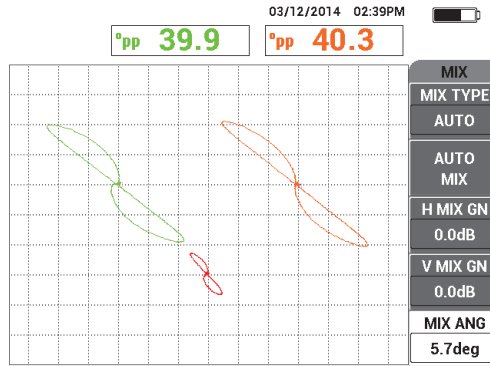

Figure 5-147 Fine-tuning the MIX angle
- c) Fine-tune the **MIX** angle (on the **MIX** page of the **MAIN FILTER** menu) to also obtain 40.0 degrees or very close to this value (see Figure 5-147 on page 230).